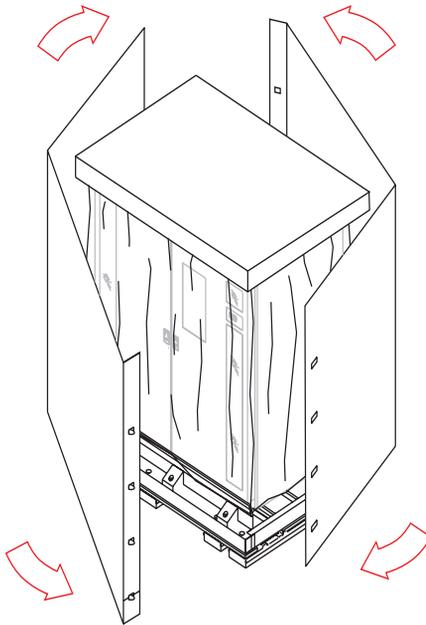

FIGURE B-4 Crating the Library
- 6. Wrap the cardboard crate around the library (FIGURE B-4) and fasten it using the plastic restraining clips.**